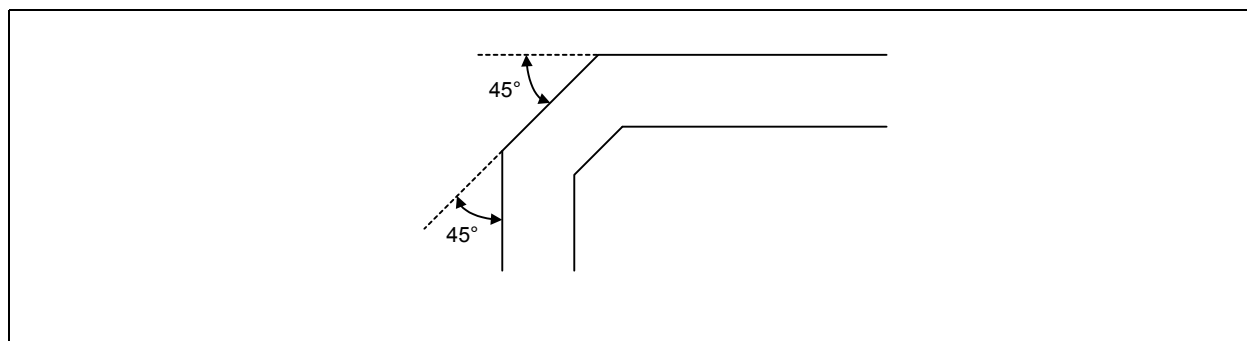

Figure 12-3. Trace Routing
- For high-speed signals, the number of corners and vias should be kept to a minimum. If a 90° bend is required, it is recommended to use two 45° bends instead. Refer to Figure 12-3.